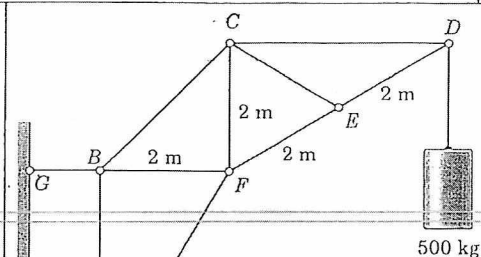

Figure 4.b.
- 4.b. Determine the support reaction at A and force in members DC, DE, EF and EC of the truss as shown in figure 4.b. Note the presence of any zero-force members.